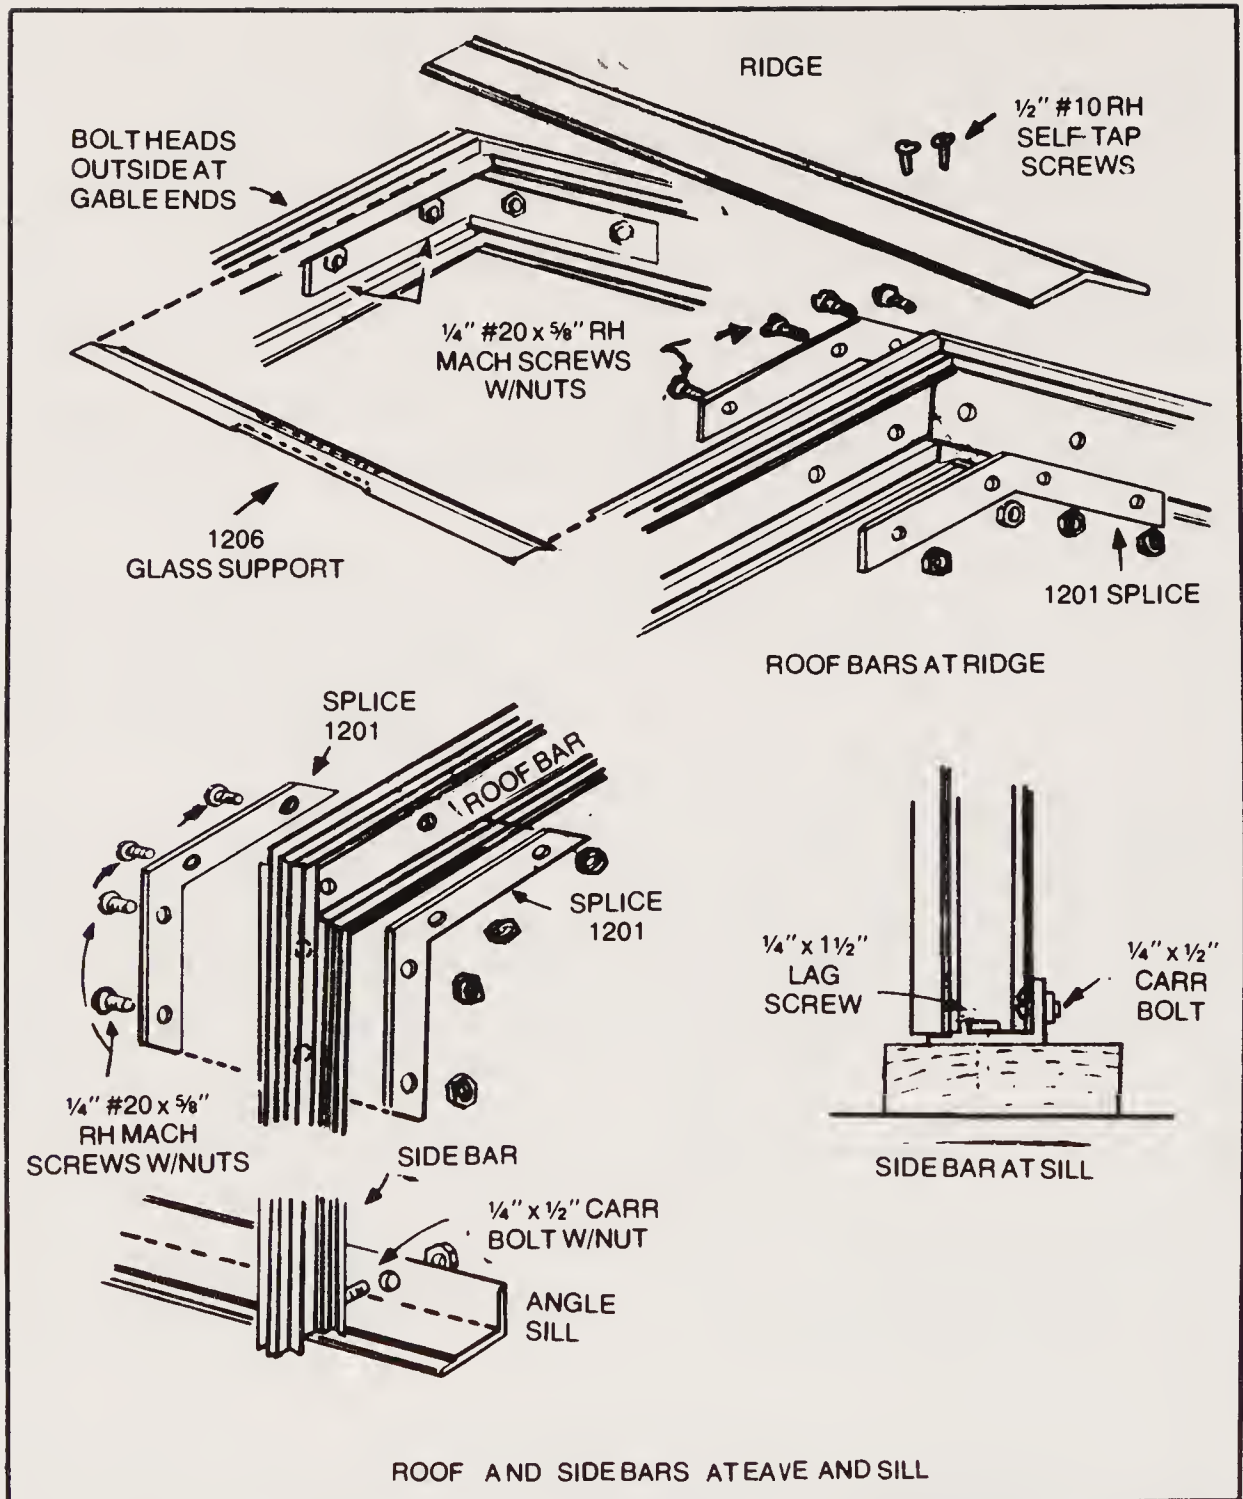

Fig. 2-115. Detail roof bar at ridge connection (courtesy of Lord & Burnham Co.).
**Gable End Bars.** Slide vinyl weatherstrip into the groove in both door bucks and door head buck. Insert vinyl into the groove and pull into place with pliers. Secure bars to the sill with carriage bolts. Connect the tops of bars to the roof bar with offset lugs (Figs. 2-115 and 2-116).